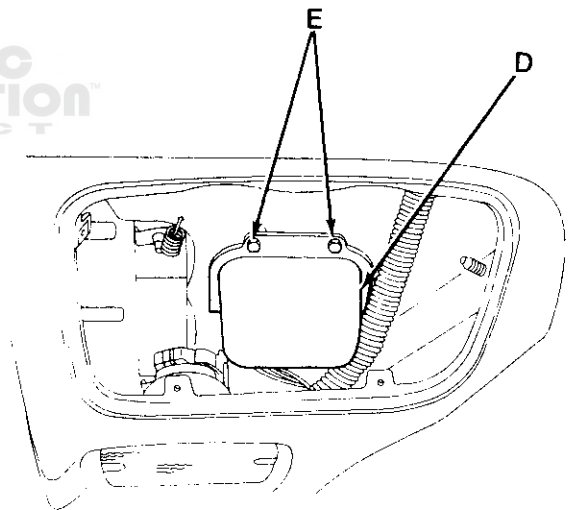

Fig. 2
4. Reaching through the headlamp opening, install the ambient air duct deflector, PN 8953 005 120, using two screws and nuts provided in the kit (D, E-Fig. 2). Install screws from the headlamp side to provide clearance for the headlamp bucket.